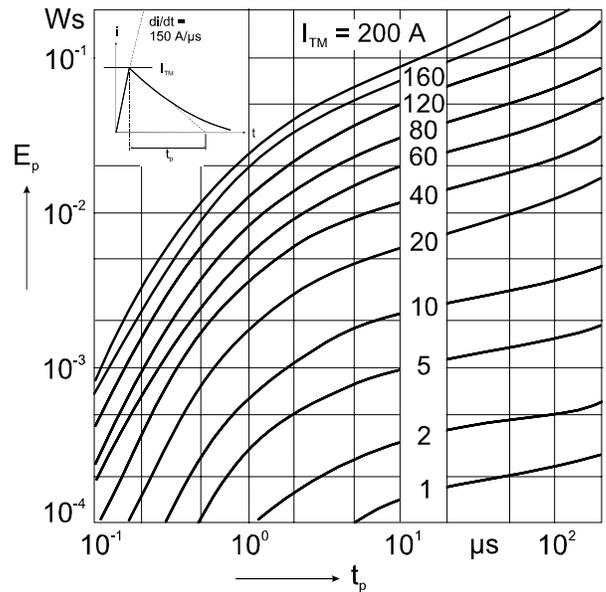

Fig. 6 Energy per pulse for single BOD element for exponentially decaying current pulse. E_p must be multiplied by number of elements for total energy.
- a. The maximum junction temperature shall be calculated for a module IXBOD 1 -30R at an ambient temperature $T_a = 60^{\circ}\text{C}$, an exponentially decaying current $I_{TM} = 40\text{A}$, a pulsewidth $t_p = 2\ \mu\text{s}$, an operating frequency $f = 50\ \text{Hz}$ and natural convection. From the diagram Fig. 6 the energy per pulse is obtained: